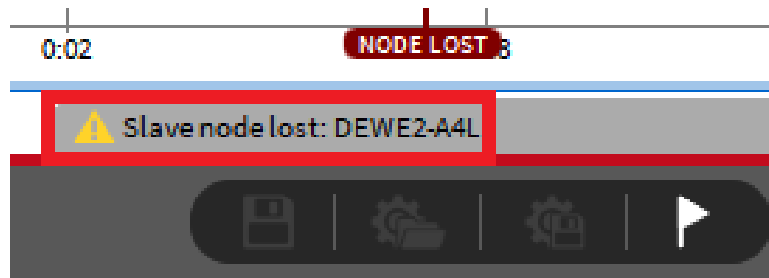

Fig. 15.27: Software feedback on master device if slave node loses network connection
- The master device adds a *Node Lost* marker to the Event List and displays the message *Slave Node Lost:...* in the lower right corner of the software (see Fig. 15.27).
The master device adds a *Node Lost* marker to the Event List and displays the message *Slave Node Lost:...* in the lower right corner of the software (see Fig. 15.27).